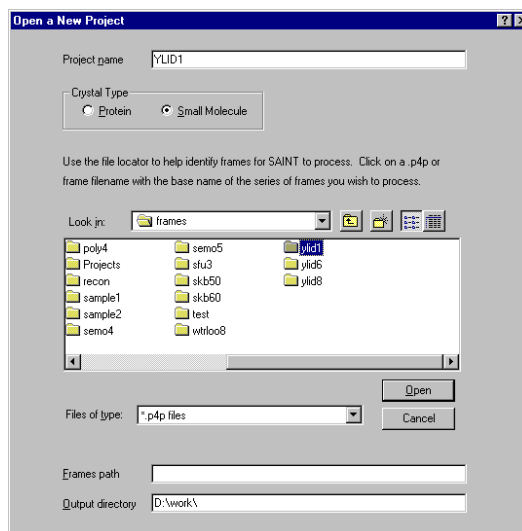

Figure 5-2. Assign a name and locate the directory
3. Assign a name to the project. Then use the built-in explorer to locate the data directory used by the SMART program (Figure 5-2).